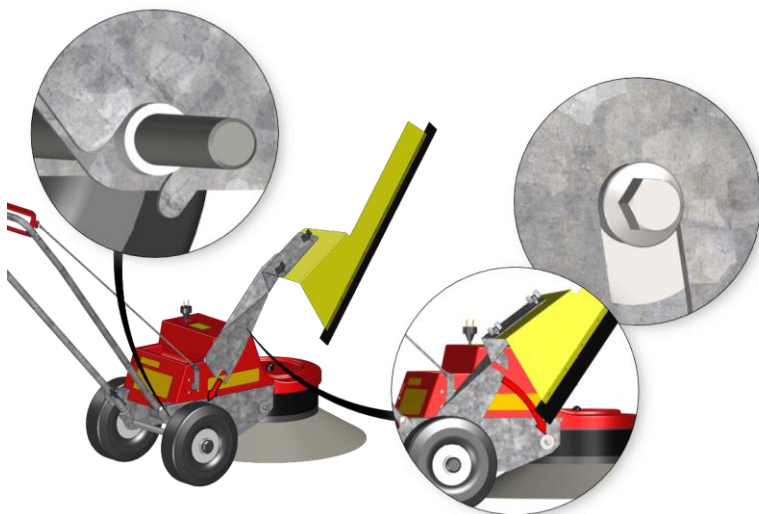

Fig. 58: Assembly of the WR 650 swath plate
2. Slide the swath plate according to Fig. 58 at an angle onto the spacer of the axle.